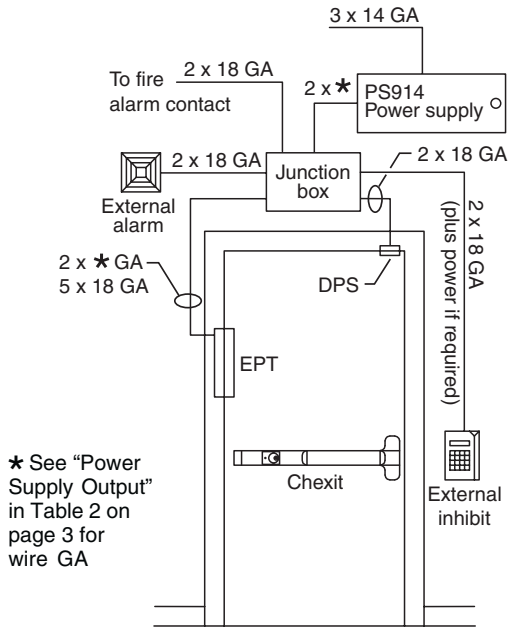

Figure 1. Component Placement and Wiring Requirements, Single Door
- 3. Determine the physical location of each component used (see Figure 1, 4, and 6).
- 4. Pull field wiring between component locations and frame side of power transfer (see Figure 1, 4, and 6).